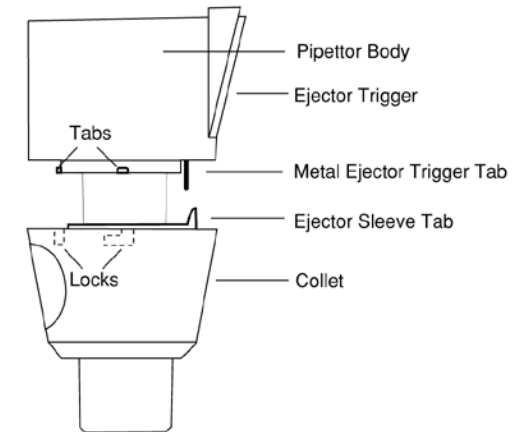

Figure F.1.3b: Detaching the Collet
4. Slide the collet, with spring and ejector sleeve, over the cylinder. Position the metal tab of the ejector trigger behind the tab on the ejector sleeve (see Figure F.1.3b).
5. Attach the collet onto the pipettor body by twisting left slightly, then right, to insert the tabs of the pipettor body into the locks on the collet (see Figure F.1.3b).